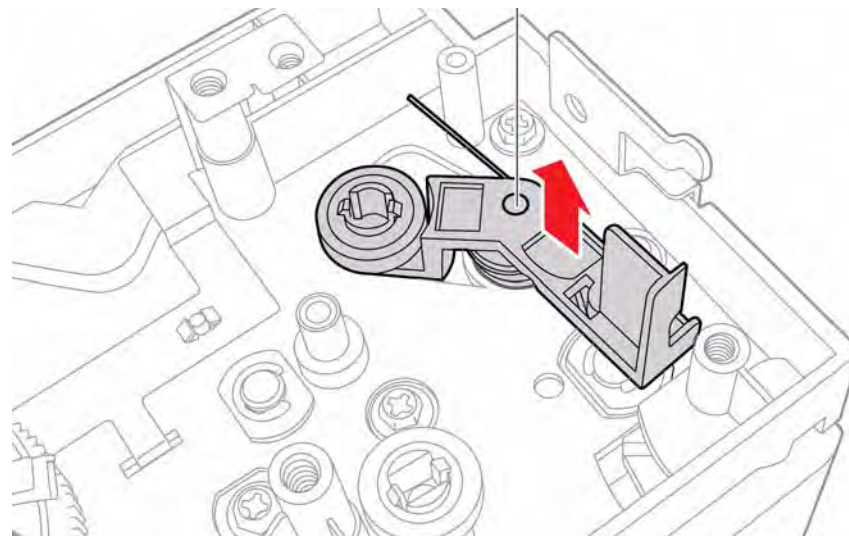

Figure 3 Remove the cam follower
7. Remove 1 (plastic) screw that secures the cam follower to the Mailbox, Figure 3.